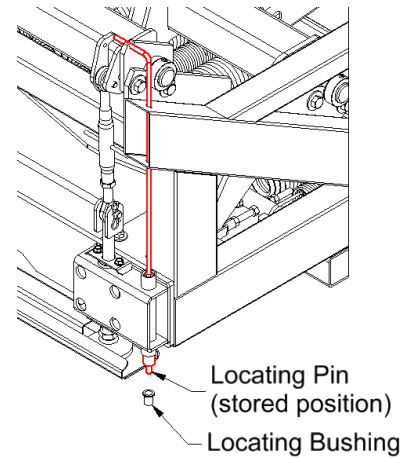

Figure 36
- a. Remove the Turnbuckle pin, loosen Locking Turnbuckle and swing it vertically down to the stored position and insert Pin as shown in figure 36.
- a. Lift the Locating Pins and hook in the stored position as shown in figure 36.